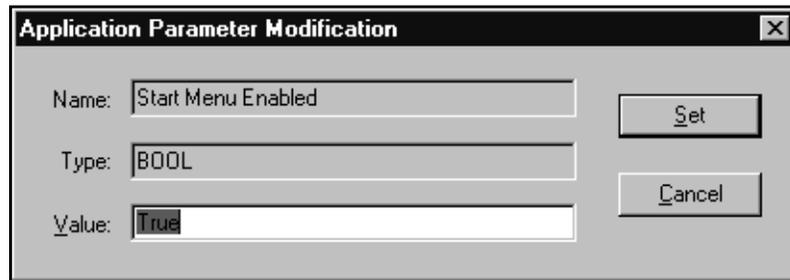

FIGURE 84. Setting Start Menu Enabled to True
- a. Type **true** at the Value command line as shown in Figure 84.